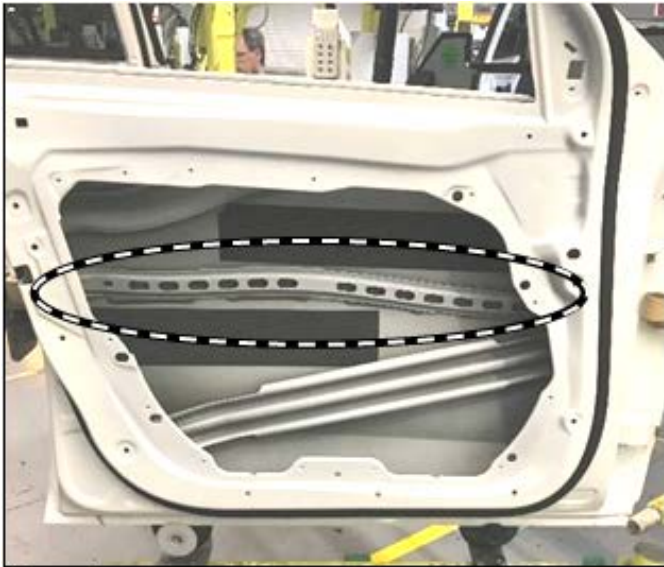
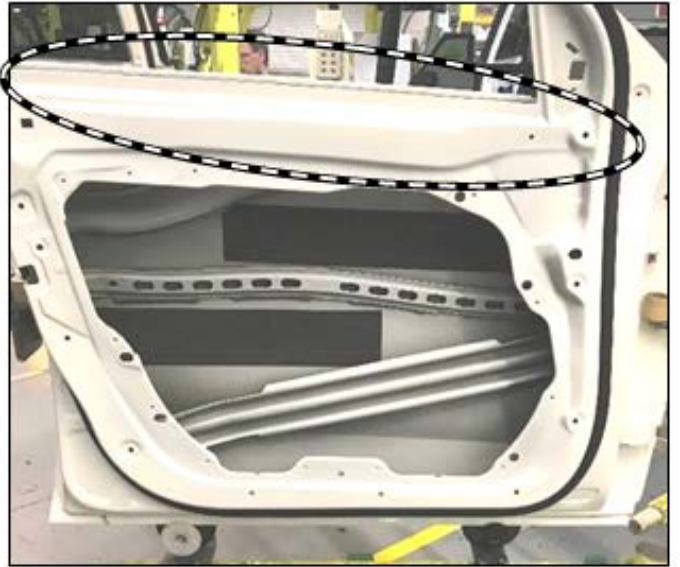

Figure 2
Figure 5
2. Perform application of cavity preservation in the areas of the side impact protection (**figures 2 to 4**) and at the beltline (**figure 5, in the door**).